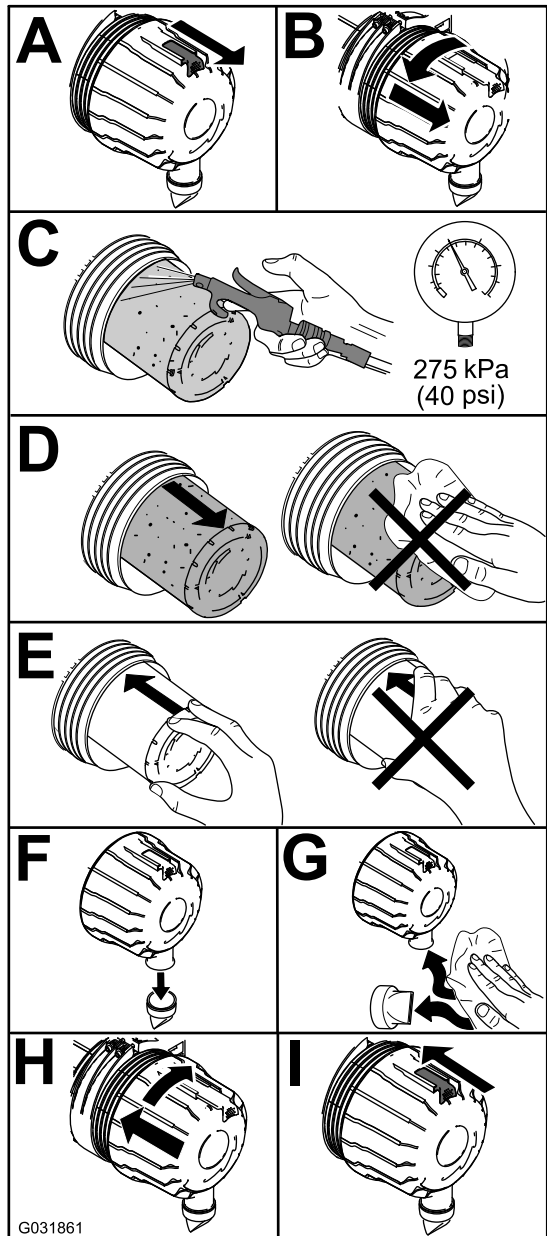

Figure 65
1. Replace the air cleaner (Figure 65).